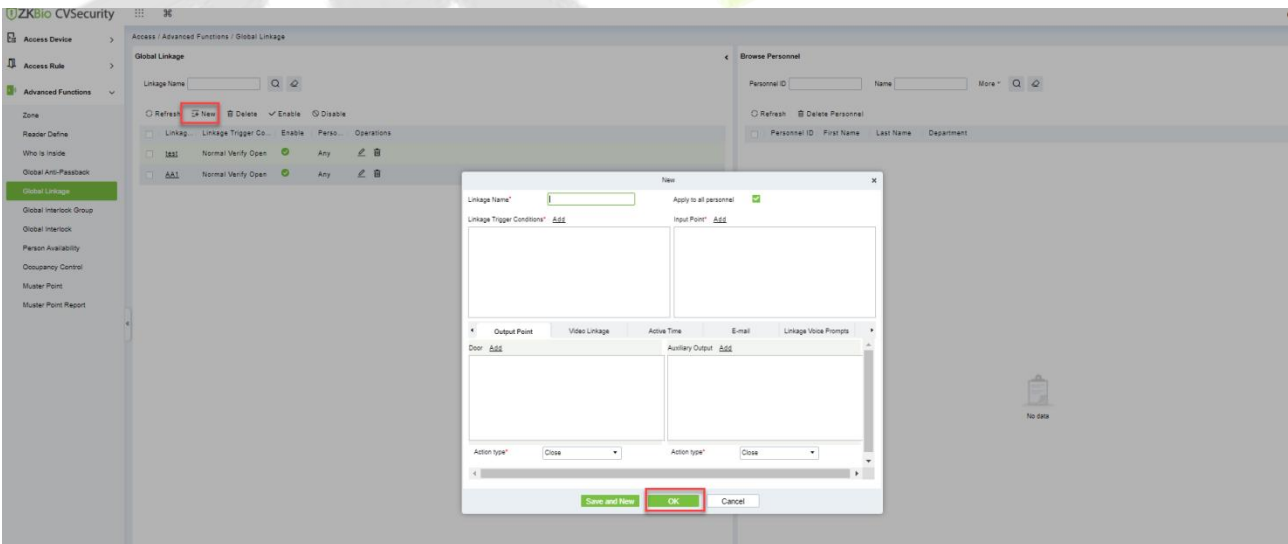

Figure 3- 110 Add Global Linkage
Step 2: On the page for adding global linkage, set related parameters and tap **OK**, as shown in Figure 3- 104. Table 3-17 describes the parameter description to complete global linkage Settings.